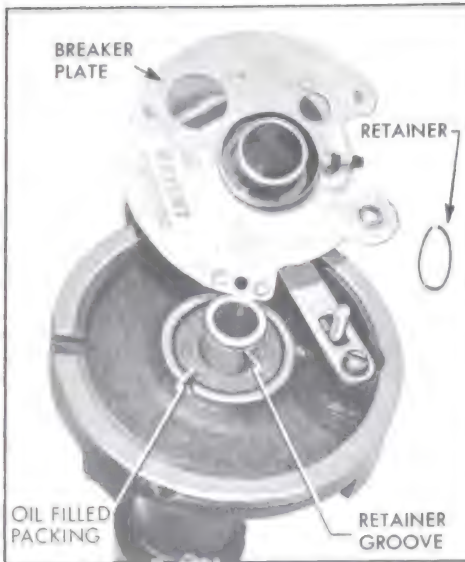

Figure 10-49—Installing Breaker Plate and Retainer
2. Install felt washer over upper bushing and apply a few drops of light oil. Then place breaker plate over upper bushing and vacuum advance link. Install retainer on upper bushing. See Figure 10-49.